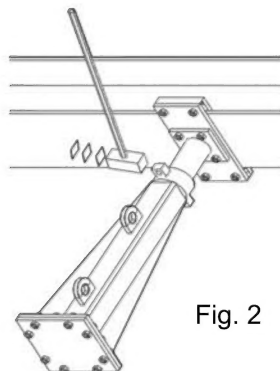

Fig. 2
- Release the strut by screwing in the screw units. To start the screws moving it may be necessary to strike the handle of the nut with a sledgehammer. See Figure 2.